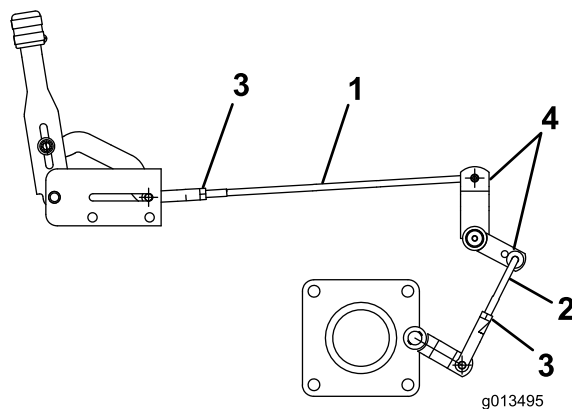

Figure 26
2. Loosen the jam nut on the actuator rod (Figure 26). Remove the cotter pin retaining the actuator rod. Increase or decrease the actuator rod length by rotating the rod. Install the actuator rod using a new cotter pin and secure the jam nut.